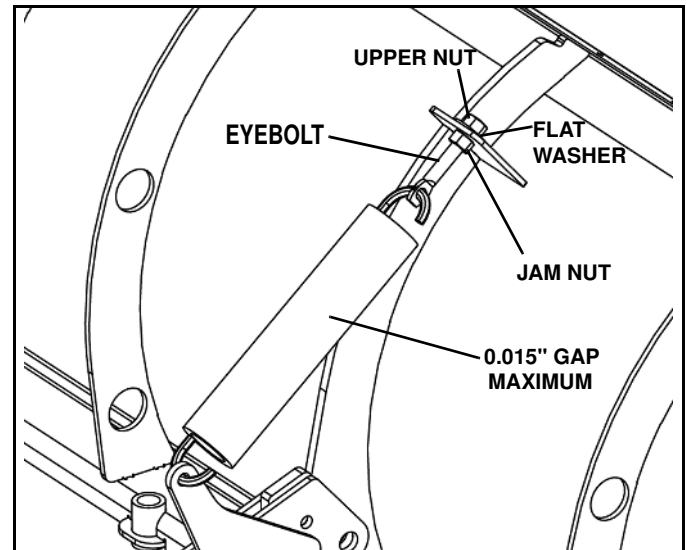

Figure 1-10
2. Hook a spring on an outer swing frame spring eyelet. (See Figure 1-10)